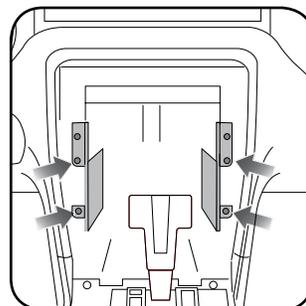

Fig. 1.7
7. Using (4) 7mm screws, reinstall the radio chassis brackets and set the screen brackets aside to be used later. (Fig. 1.7)